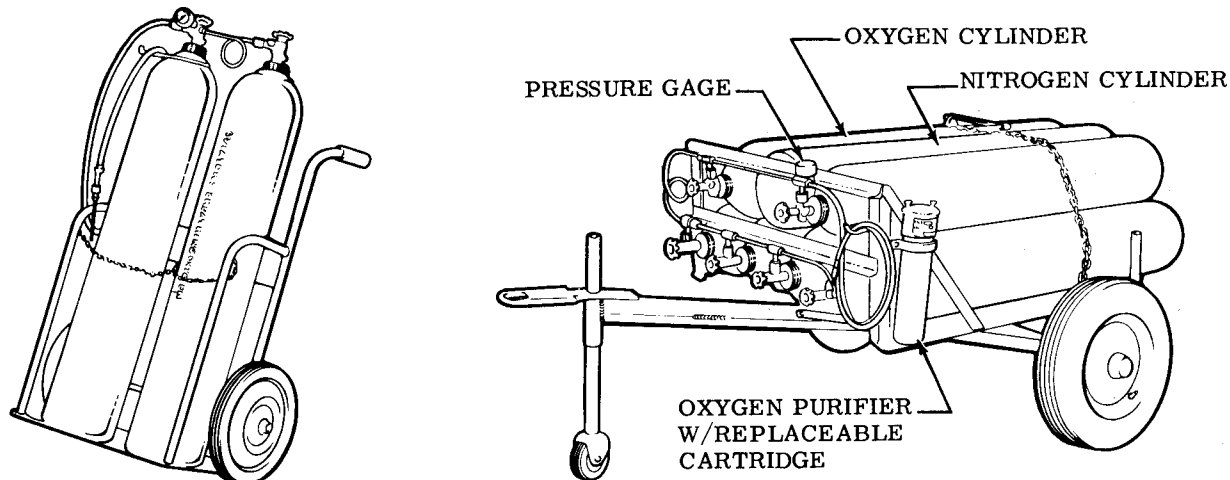

Figure 15-10. Typical Portable Oxygen Cascades
- a. Connect portable oxygen cascade (see figure 15-10) to filler valve.